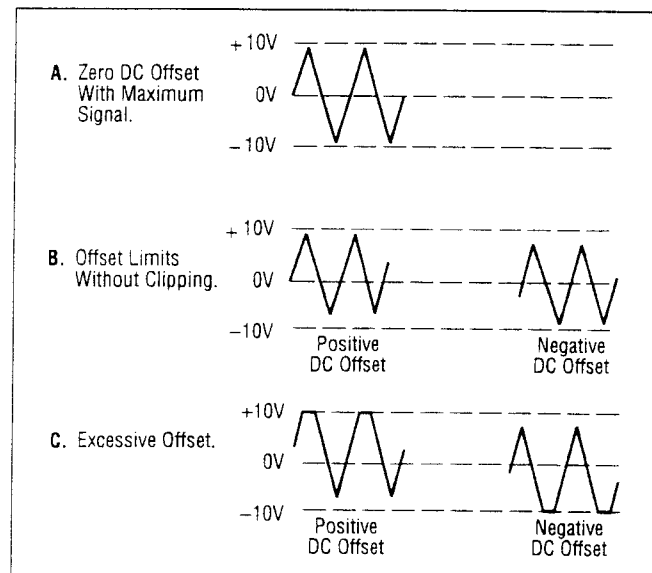

Figure 3. Use of DC OFFSET Control
- A superimposed DC component can be added to the output signal by engaging the **DC OFFSET** switch (14) to enable operation of the **DC OFFSET** control (5). Rotation of this control adds a positive or negative DC component to the output signal. The DC component introduced is independent of the **OUTPUT LEVEL** control and can be varied by ± 10 volts open circuited or ± 5 volts into 50 Ω . The DC Offset does not affect the **TTL/CMOS** output jack. The effect of DC OFFSET is shown in Fig. 3.
- Remember that the output signal swing of the generator is limited to ± 10 volts open circuited or ± 5 volts into $50\ \Omega$, and applies to the combined peak-to-peak signal and DC offset. Clipping occurs slightly above these levels. Fig. 3 illustrates the various operating conditions encountered when using the DC offset. If the desired output signal is large or if a large DC offset is required, an oscilloscope should be used to make sure that the desired signal is obtained without undesirable clipping.